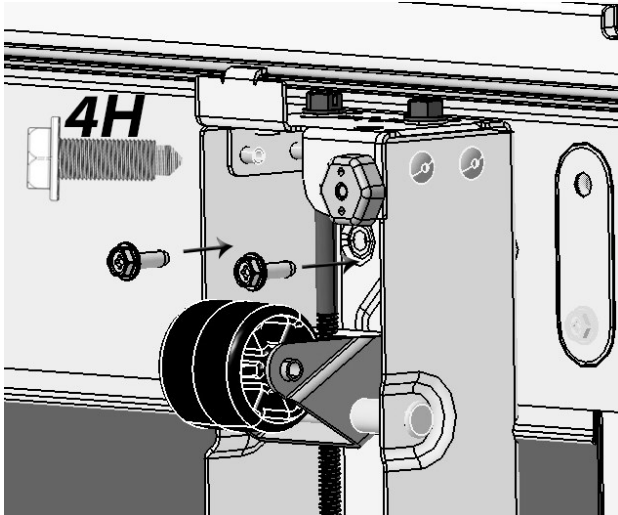
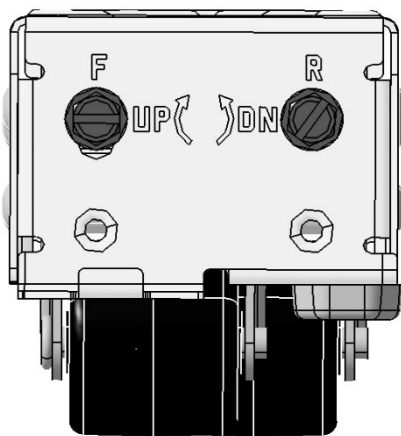
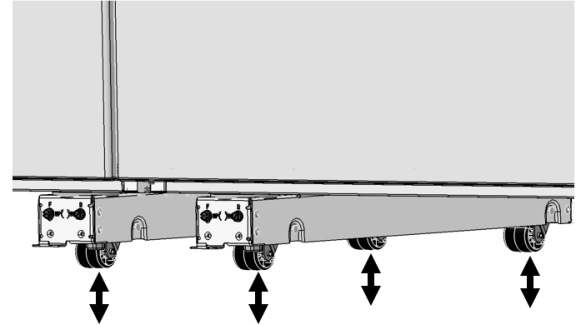

Figure 4
Figure 5
Figure 9
- b. Using the 4H bolts from step 1, fasten the front of the Leveler Assembly to the refrigerator/freezer using a 5/16" Nut Driver (Figure 4). If more fastening space is required, rotate the bolt labeled "F" clockwise (Figure 5) using a flat head screwdriver or a 3/8" socket wrench.
- c. Use a flat head screw driver or a 3/8" socket wrench to adjust the front ("F") and rear ("R") bolts of the Leveler Assemblies as seen in Figure 5. Raise or lower the front and back wheels as needed (Figure 9), ensuring the refrigerator is parallel to the freezer.
8. Attach the 1H top bracket as shown in Figure 9, keeping the two left 4H bolts loose.